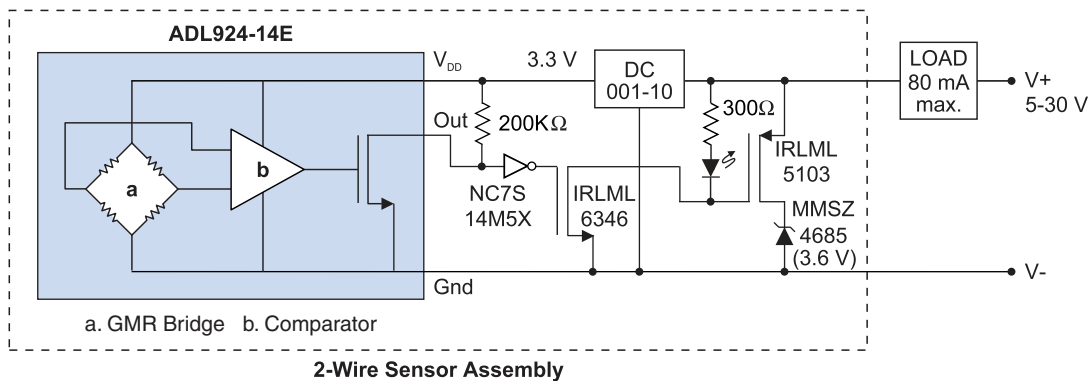

Figure 4. Typical two-wire circuit.
- Updated typical performance vs. supply at 4.2 V (p. 5; Figs. 4, 6-8).